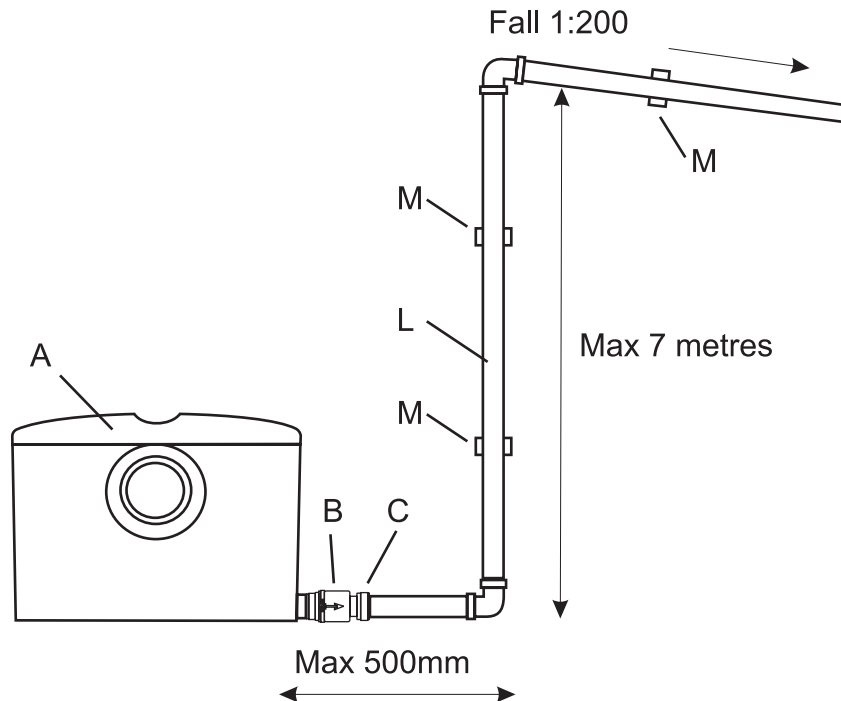

Fig. 6
- 3.4 The discharge pipe work should be 32mm Waste Pipe (L) and all joins should be made using Solvent Weld (J), under no circumstances should push-fit or compression fittings be used. The Powerflush™ is designed for one vertical lift only and this lift should be within 500mm of the Non-return Valve (B). It is important to remember that you must NOT pump down before pumping vertically as this will significantly reduce the distance the Powerflush™ can pump. Push the 32mm Waste pipe (L) into the Non-return Valve (B) and fix securely into place using a Hose Clamp (C). The pipe work should be fixed to the wall using Pipe Clips (M) to prevent any movement under pressure. (See Fig. 6)